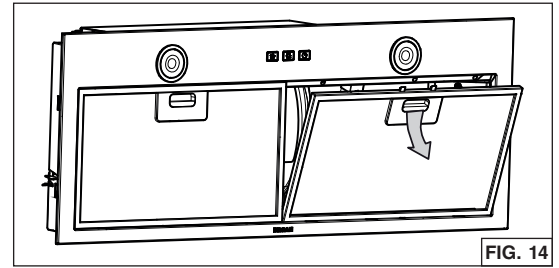

FIG. 14
2. Remove the grease filters by pushing down on latch tab and tilting the filters downward (FIG. 14). Set aside the filters.